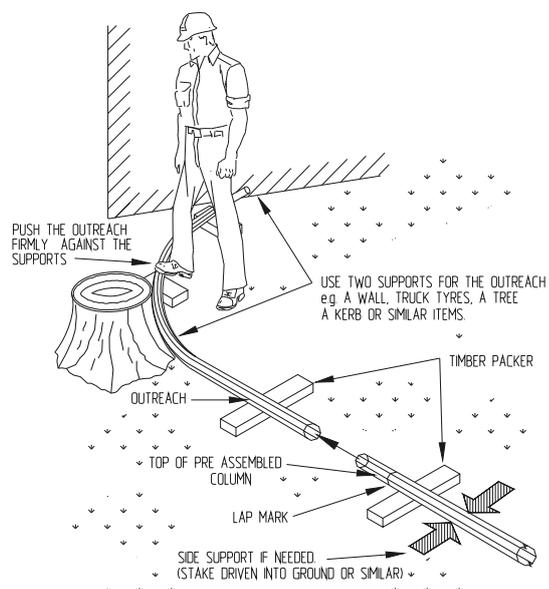

Figure 2
6. Place the outreach against a firm supports as shown in Figure 2. Advance it to the top section and engage the two ends together as far as is possible ensuring that the column and the outreach are aligned straight. Support the column on timber bearers.
7. Hammer the bottom of the column using a timber packer. Push the outreach firmly against the supports (Figure 2) and hold it like that. This is to prevent any movement of the outreach during hammering of the sections on it.